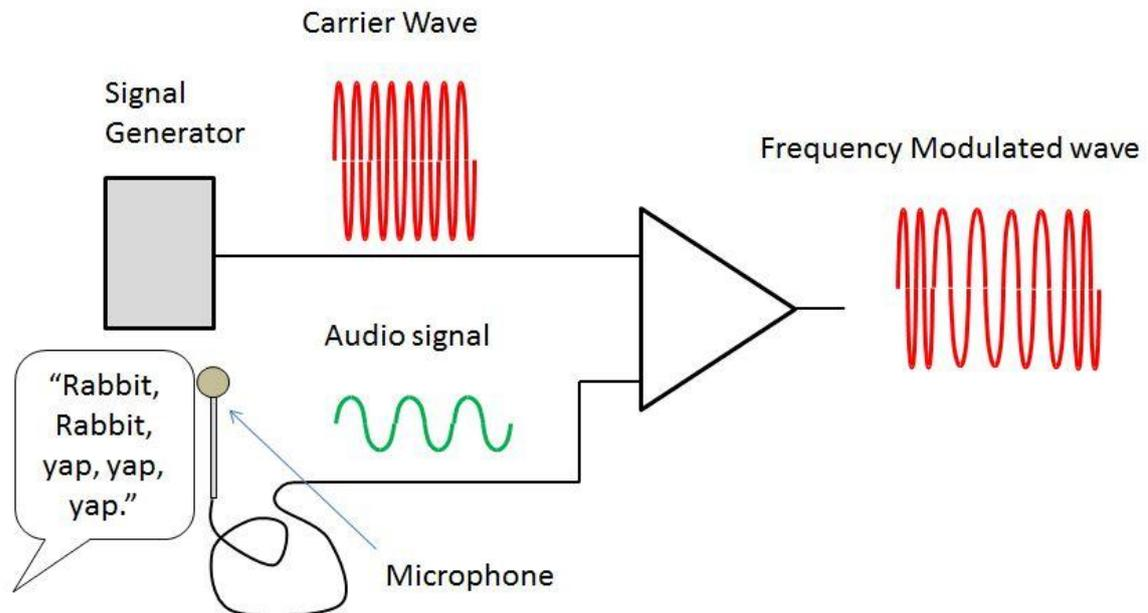

Figure 214 Frequency Modulation
The diagram below (*Figure 214*) shows an audio signal being combined with a carrier wave. In this case, the frequency of the carrier wave is changed by the frequency of the audio signal. Hence, it's called **frequency modulation (FM)**